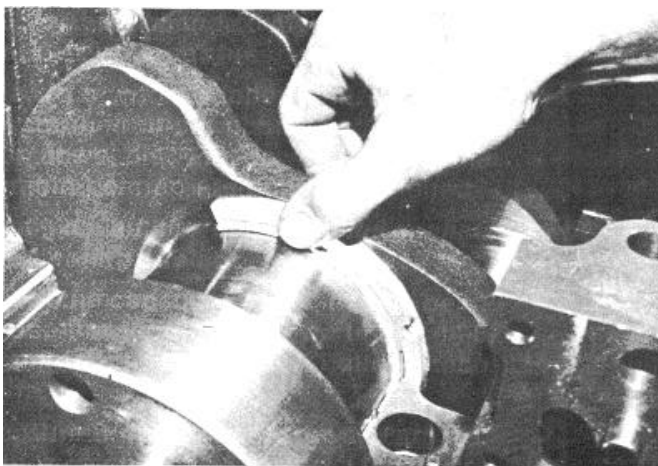

Fig. 14-4 (N11404). Install The Thrust Ring.
6. Install the upper thrust ring. Make sure the grooved side of the thrust ring is against the crankshaft flange, Fig. 14-4.